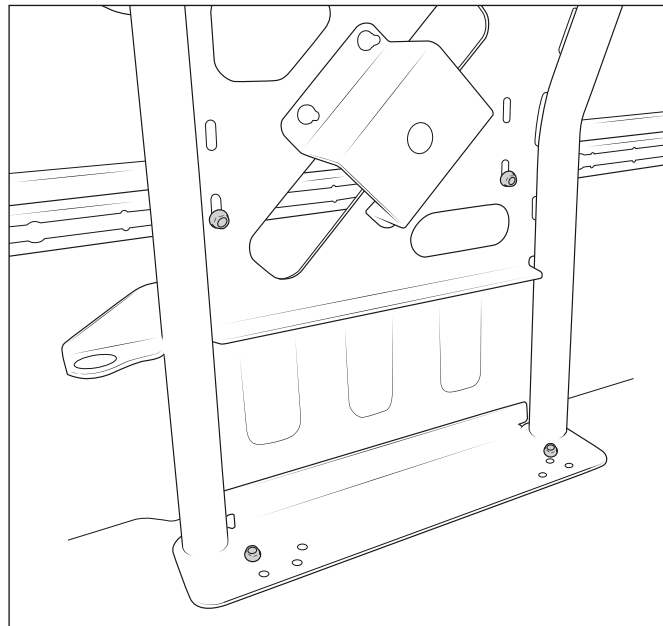

Figure 6
11. Place the Spacers and Tire Carrier into position with the two bed floor bolts and two T-Track bolts (fig. 6). Install M10 nuts on the bolts.